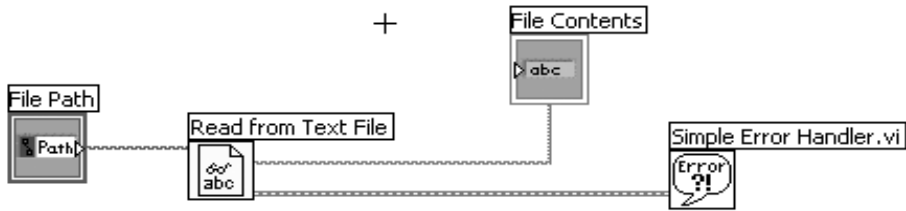

Figure 9.42
1. Build the front panel shown in Figure 9.42.